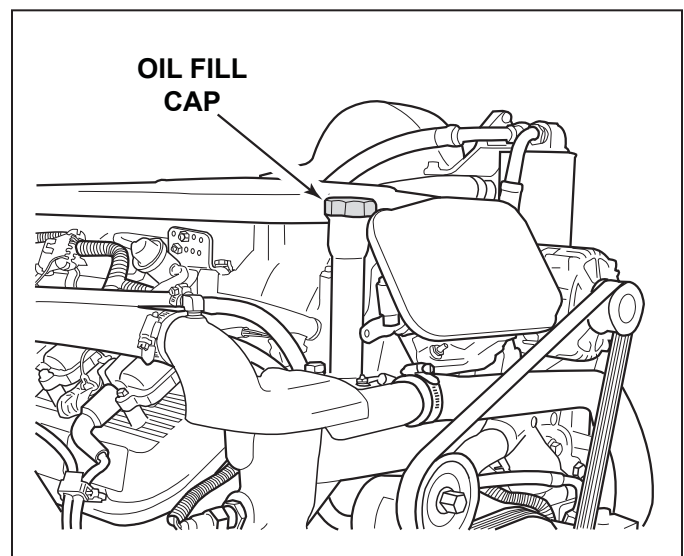

Figure 11-25 Engine Oil Fill
4. Fill the engine with the recommended oil through the oil fill location on the valve cover (Figure 11-25). See **OIL REQUIREMENTS** page 40 and **ENGINE FLUID CAPACITIES** page 67, respectively.